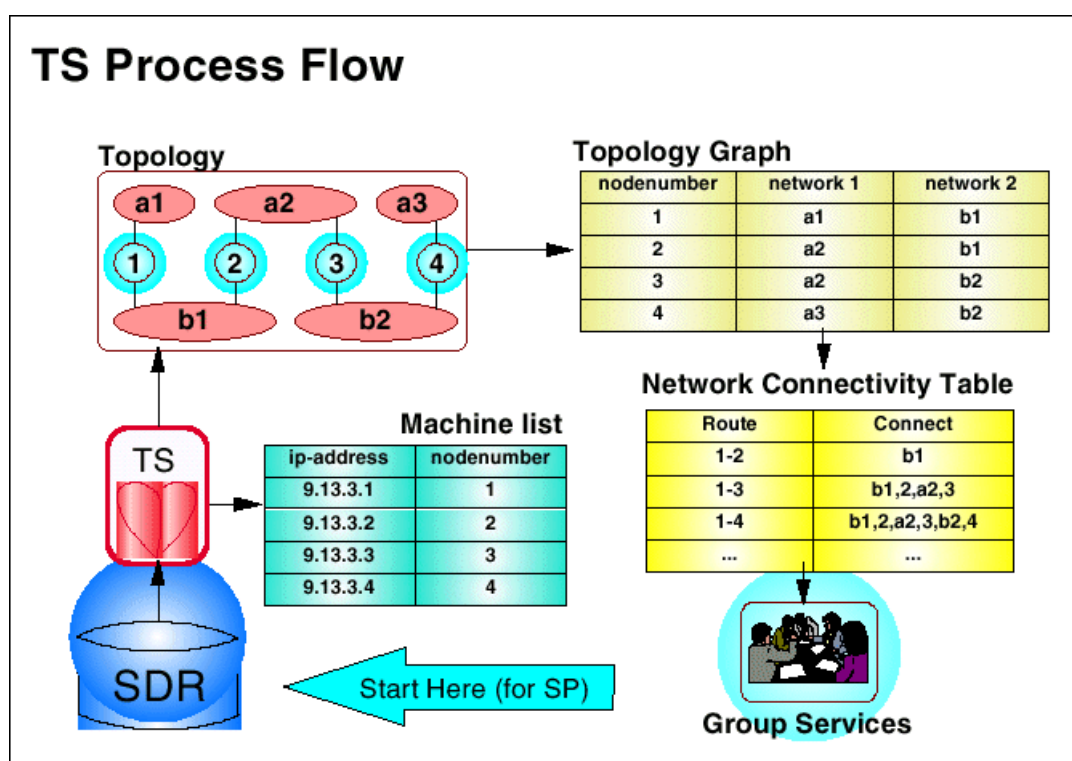

Figure 4-16 Topology Services process flow
Upon the startup of the Topology Services daemon, the initial configuration information is supplied from the SDR. This is used to build a Machine List file, and adapter groups are established and a topology table (connectivity and availability table) is built. This in turn is used to build the Network Connectivity Table (NCT) in shared memory, and this information is passed via the Reliable Messaging subsystem to Group Services (GS) as a client of Topology Services. This process flow is shown in Figure 4-16.